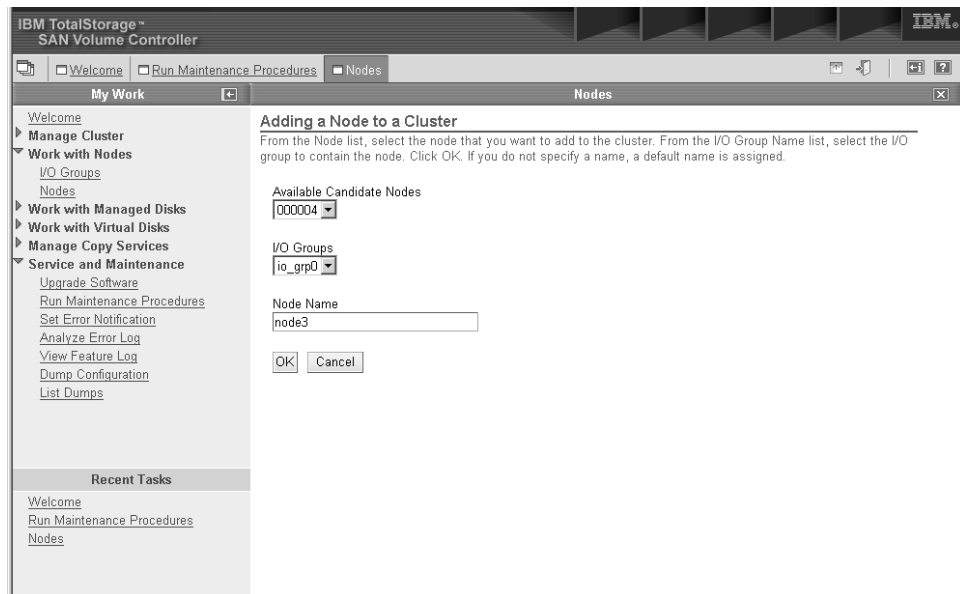

Figure 25. SAN Volume Controller Console Nodes panel
- From the drop down menu, select the Add a node option and press the Go button. The following panel is displayed. See Figure 25.